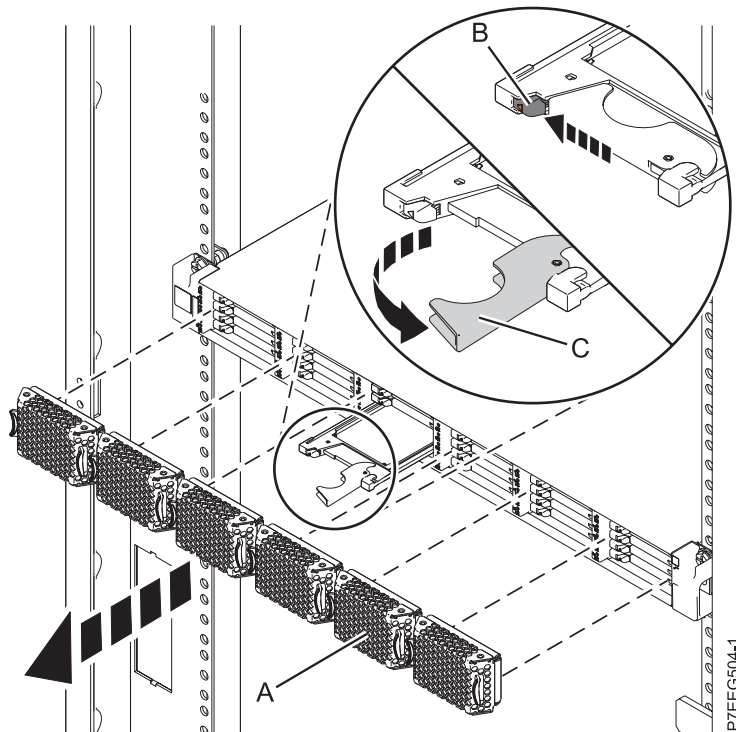

Figure 23. Removing the solid-state drive from the ED/R1 PCIe storage enclosure
1. Pull off the bezel (A) that covers the slot containing the solid-state drive.
2. Slide the release latch (B) over gently to unlock the drive handle. See Figure 23 on page 37.
4. When the solid-state drive identify LED flashes, grasp the handle (C), and pull the drive partially out of the slot.